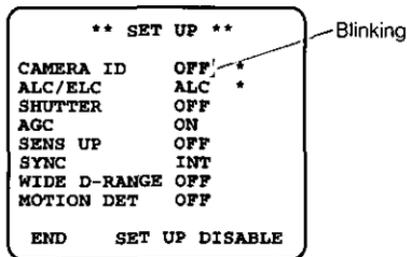

Fig. 17
- By pressing the Set Switch (9) for more than 1 second, the "SET UP" menu is displayed on the monitor screen as shown in Fig. 17.
(1) Auto iris Lens with ALC Mode
- Display the Setup menu as shown in Fig. 17.
- Move the cursor to the "ALC/ELC" mode position and select the "ALC" mode by using the Left Switch (<) (7) or Right Switch (>) (6).